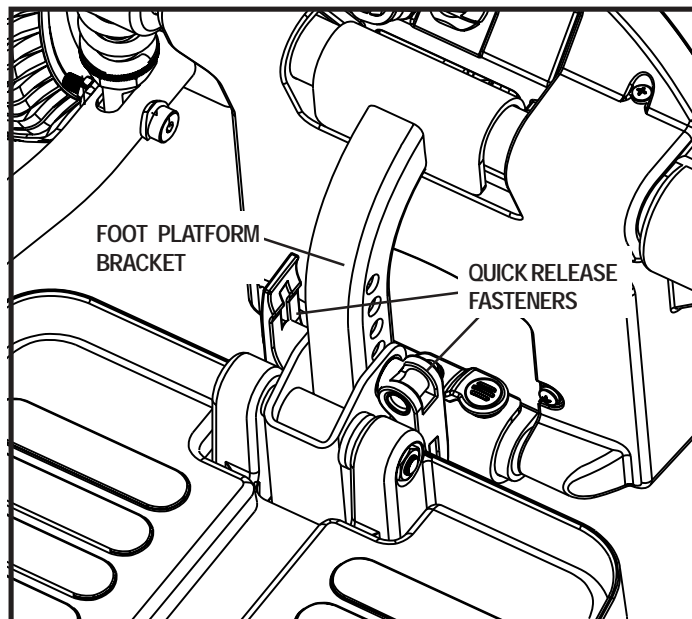
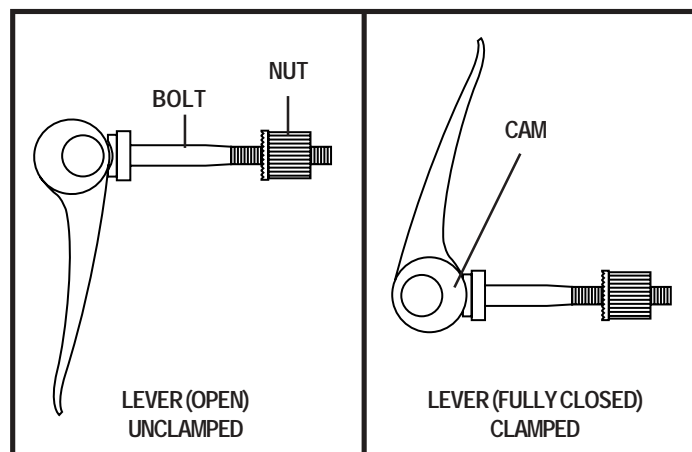

Figure 21. Foot Platform Adjustment
Figure 22. Quick Release Fasteners
1. Remove the quick release fasteners from the foot platform bracket. See figure 21.
The foot platform is attached to the power base with two quick release fasteners. See figure 21. Each quick release fastener consists of a bolt, a lever and a nut. See figure 22. The lever has a cam on the end that allows it to clamp into place. The quick release fastener has two states: clamped and unclamped. When the lever is open, the quick release fastener is unclamped. When the lever is closed, the quick release fastener is clamped.